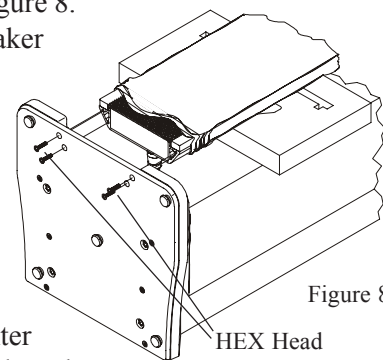

Figure 8
- Untie the cloth cover draw cords on the Midrange/High Frequency Column and push up the cover about six inches (15.24cm). Using the supplied "T" handle tool remove the hex head screws from the bottom of the column. These screws will be used later to fasten the Column to base in step number 8. Refer to figure 8.
- Using the previously removed hex head screws and "T" handle tool, fasten the Midrange/High Frequency Column to the metal plate part of the Low Frequency Column base. Refer to figure 8.